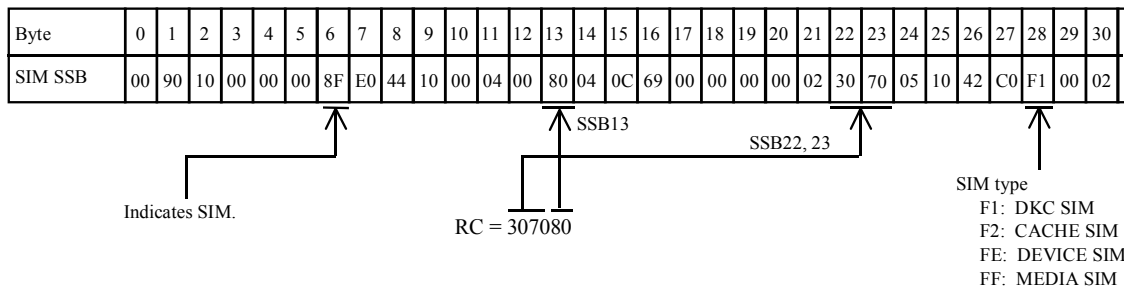

Figure 6.1 Typical 9900 SIM Showing Reference Code and SIM Type
Figure 6.1 illustrates a typical 32-byte SIM from the 9900 subsystem. SIMs are displayed by reference code (RC) and severity. The six-digit RC, which is composed of bytes 22, 23, and 13, identifies the possible error and determines the severity. The SIM type, located in byte 28, indicates which component experienced the error.